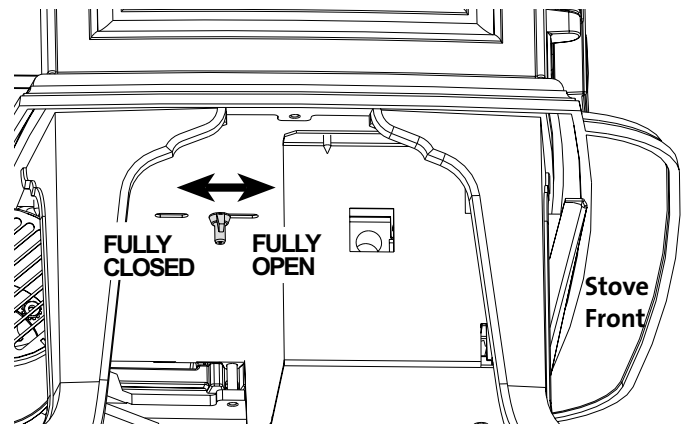

Figure 21. Locate and loosen the Air Shutter wingnut under the stove.
6. Reach under the stove and loosen the Air Shutter wing-nut. Push the shutter stem back to ease burner removal. See fig. 21.